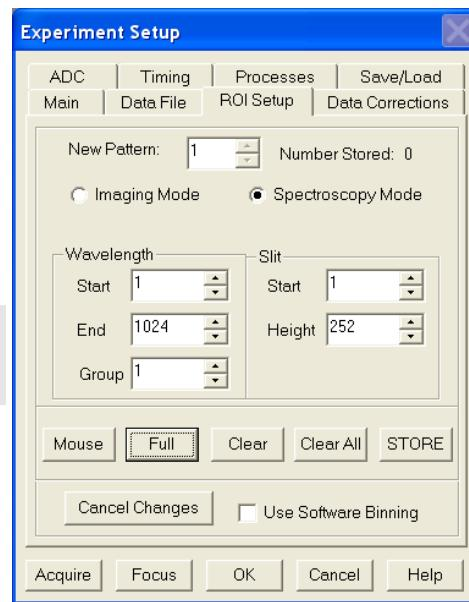

Figure 129. ROI Setup tab
1. Open the **Experiment Setup** dialog and click on the ROI Setup tab to open the **ROI Setup** tab (Figure 129).